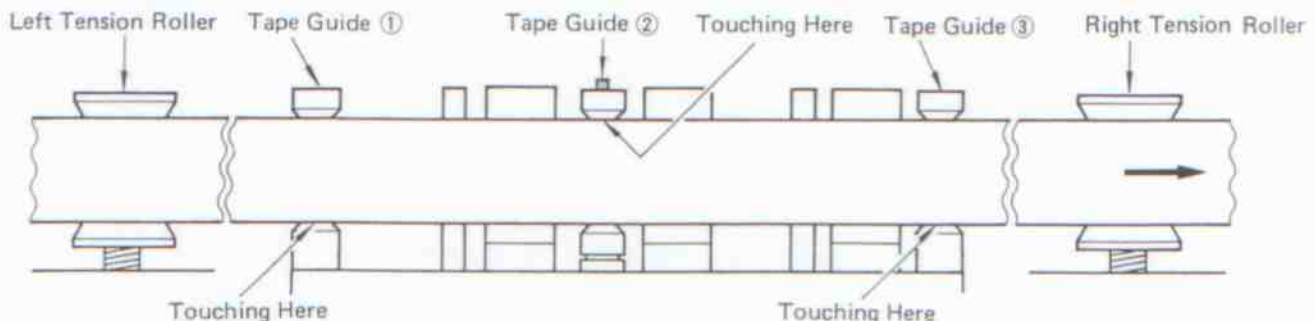

Fig. 7-6-3. Correct Tape Travel
1. Load a tape and run it in repro mode. Check that the upper edge of the tape is just touching the upper flange of the tape guide ②, and the lower edge of the tape the lower flange of the tape guides ① and ③ (see Fig. 7-6-3).